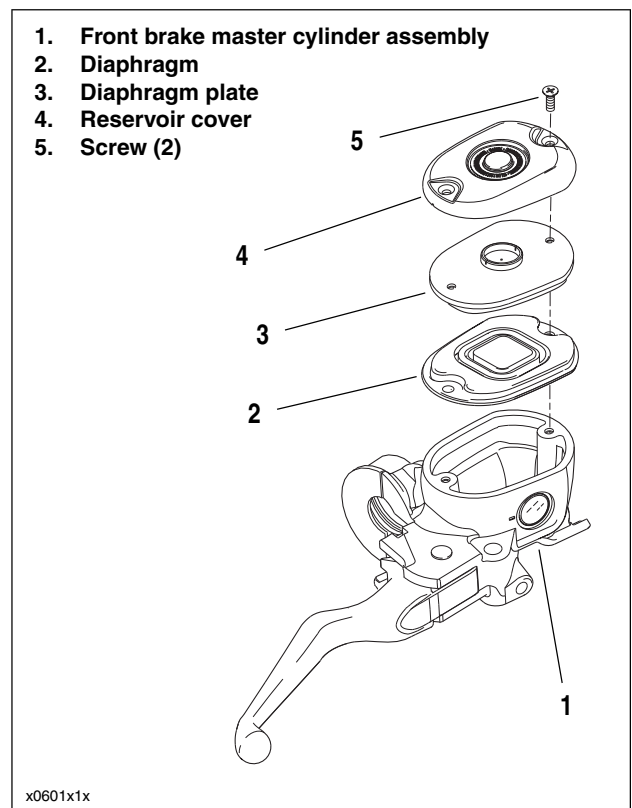

Figure 1-15. Front Brake Master Cylinder Cover Assembly
2. See Figure 1-15. Remove reservoir cover (4) with two captive screws (5), diaphragm plate (3) and diaphragm (2) from master cylinder reservoir (1).
11. See Figure 1-15. Replace diaphragm (2), diaphragm plate (3) and reservoir cover (4) with captive screws (5). Tighten to 9-17 **in-lbs** (1.0-2.0 Nm).